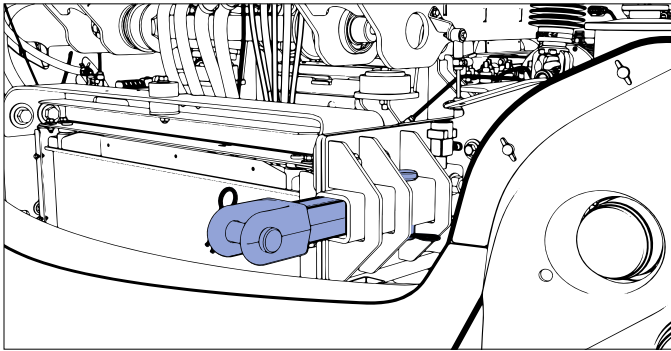

Figure 29 - Tow hooks inserted on the front crossmember
3. Insert the two hooks on the front cross member. (Figure 29)